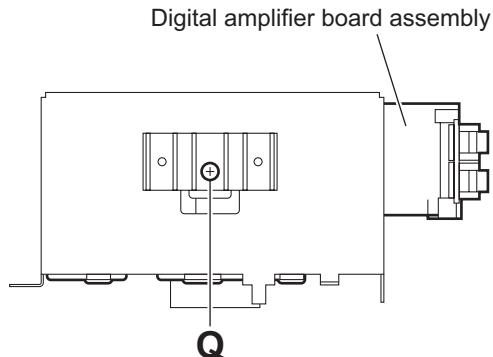

Fig.17
(See Figs.17 to 22)
- (1) From the forward side of the digital amplifier board assembly, remove the screw **Q**. (See Fig.17.)